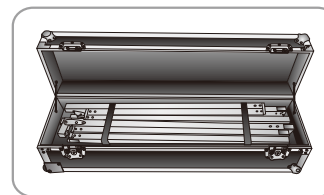
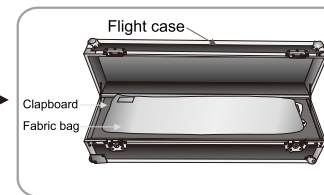

Figure 39
Figure 40
8. Put legs and main frame in the case and fasten them as Figure 39 . Put the accessory bag inside. Place the clapboard in place and put the fabric bag on it (Figure 40).